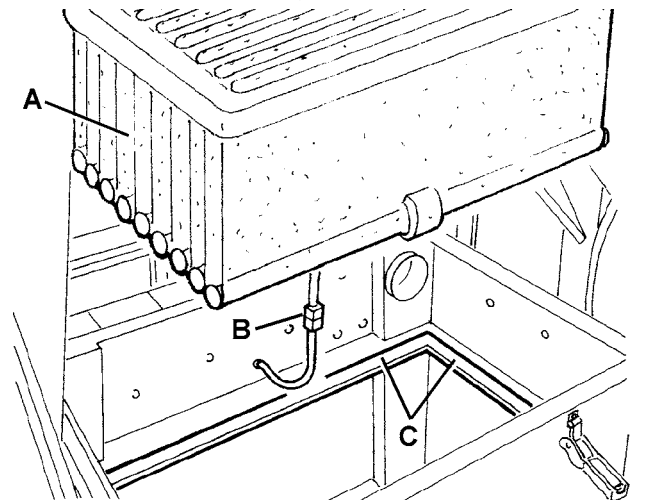

Figure 17
7. Disconnect the filter shaker connector (B, Fig. 17) and remove the dust filter (A).
1. If necessary, clean the filter compartment rubber gasket (C, Fig. 17) along its perimeter and check it for integrity. If necessary, replace it.